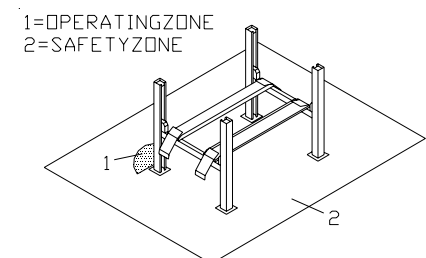

Fig.6
The safety zone (Fig. 6) is to some extent determined by the dimensions of the vehicle to be lifted.
During lifting- and lowering movements, the operator must be within the zone of operation (1), as shown in Fig. 6. The presence of any person in the safety zone (2) is strictly forbidden. The presence of persons under the vehicle is only permitted if the vehicle is parked in the lifted position.